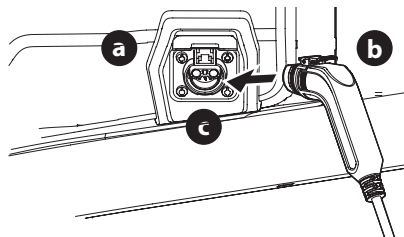

Figure 11
1. Lift the charging port cover (a) (Figure 11).
2. Insert the charging cord (b) into the charging port (c) (Figure 11).